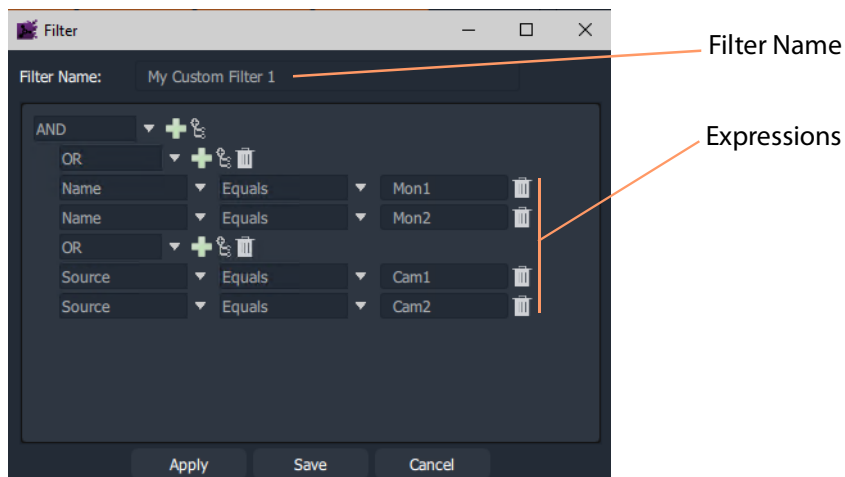

Fig. 11-62: Completed Custom Filter
- 9 Set up the expressions as shown in Figure 11-62.